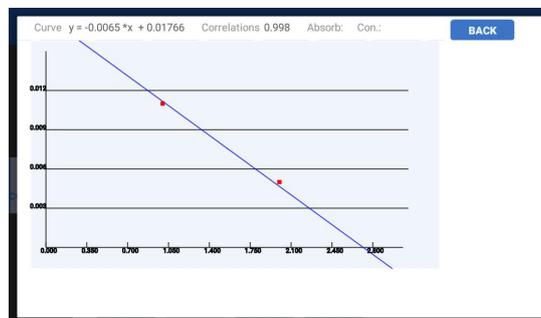

Fig 4.18 New curve
(2) Other buttons introduce
①  : click this button to display the current curve, as Fig 4.18